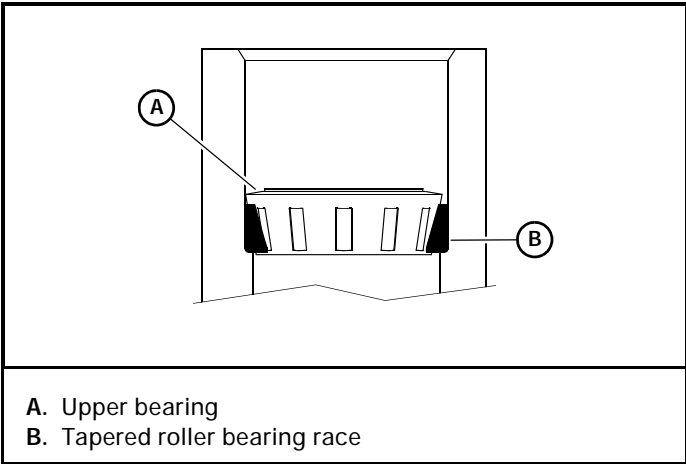

**Figure 4-34**
7. Make sure the bearings outer race is correctly aligned before pressing the outer race into the fully-seated position against the caster pocket shoulder. Figure 4-34